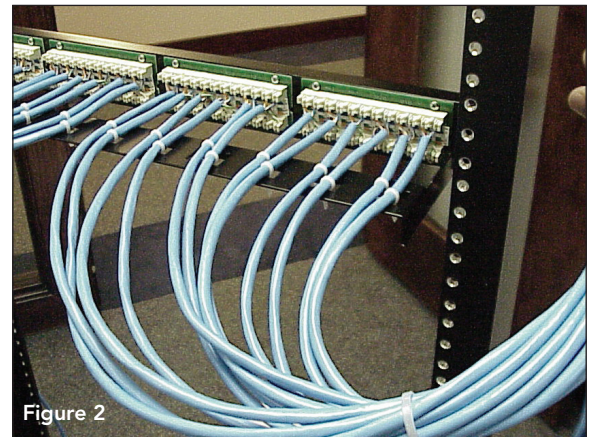

Figure 2
- 4.3 Measure and cut to length (plus 1 1/2" for stripping and termination) the cable to be terminated at the 110 module on the rear of the panel using sweeping bends. Strip the cable jacket back 1 1/2", being careful not to nick or scrape the conductor insulation. See Figure 2.